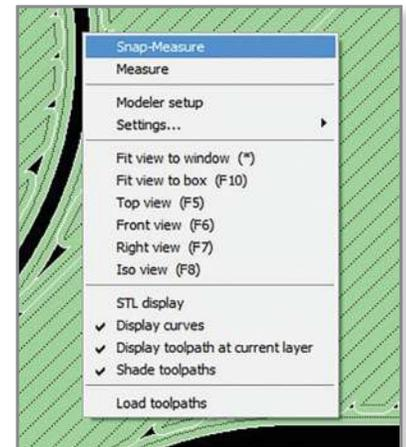

Figure 4: Snap-Measure tool.
**STEP 7:** Right click anywhere in the viewport and select *Snap-Measure* from the menu. Drag the cursor to measure the clearance between model toolpaths (Figure 4).